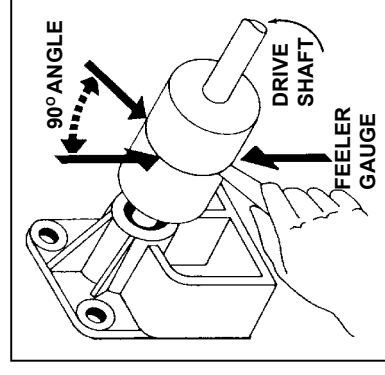

FIGURE 6
8. To avoid angular misalignment, insert a measuring device (taper gauge or feeler gauge) between the coupling faces at four locations 90 degrees apart. (See arrows in Figure 6) and measure the gap at each of the four locations. For proper alignment all four measurements should be equal. Reshimming may be required to achieve this alignment.